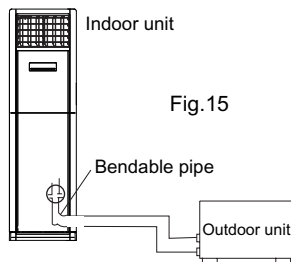

Fig. 15
- Both of the indoor and outdoor units adopt flare-end connection. Refrigerant pipe as shown below is used to connect indoor and outdoor units. (As shown in Fig.15)